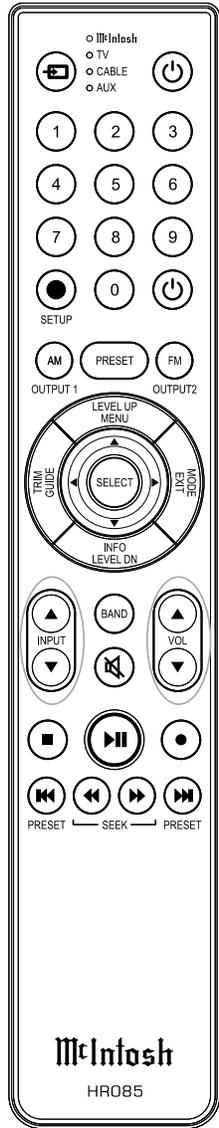

Figure 68
2. Select the desired Zone B Source by pressing the INPUT Up or Down Push-button on the Remote Control. Refer to figure 68.